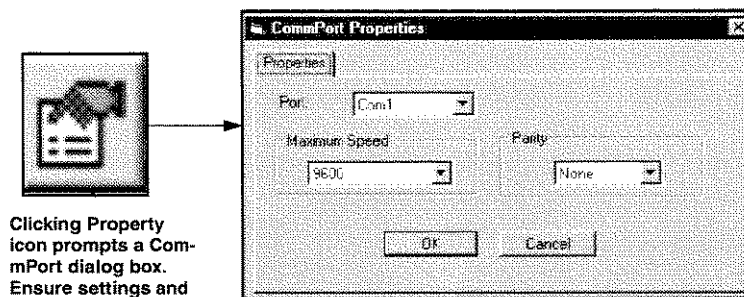
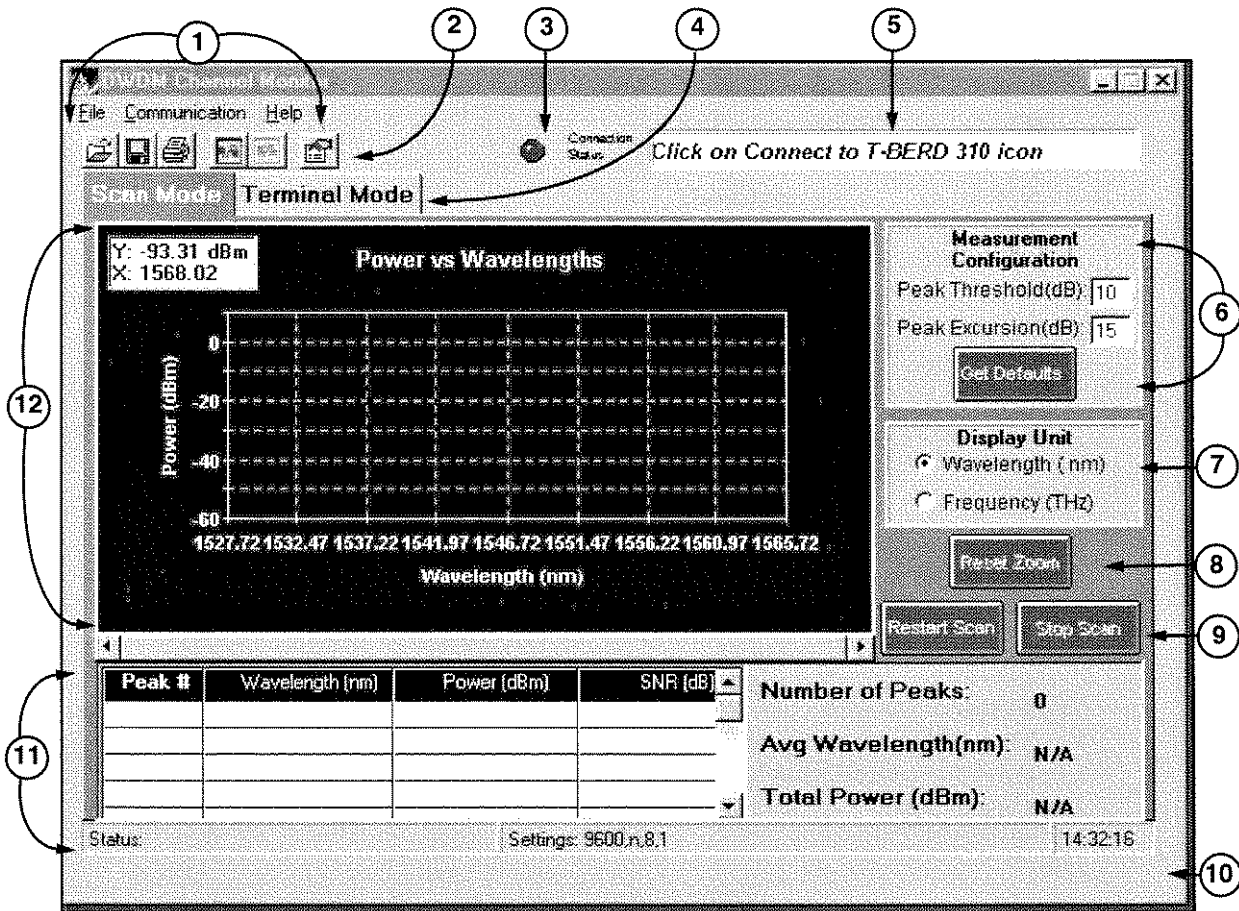
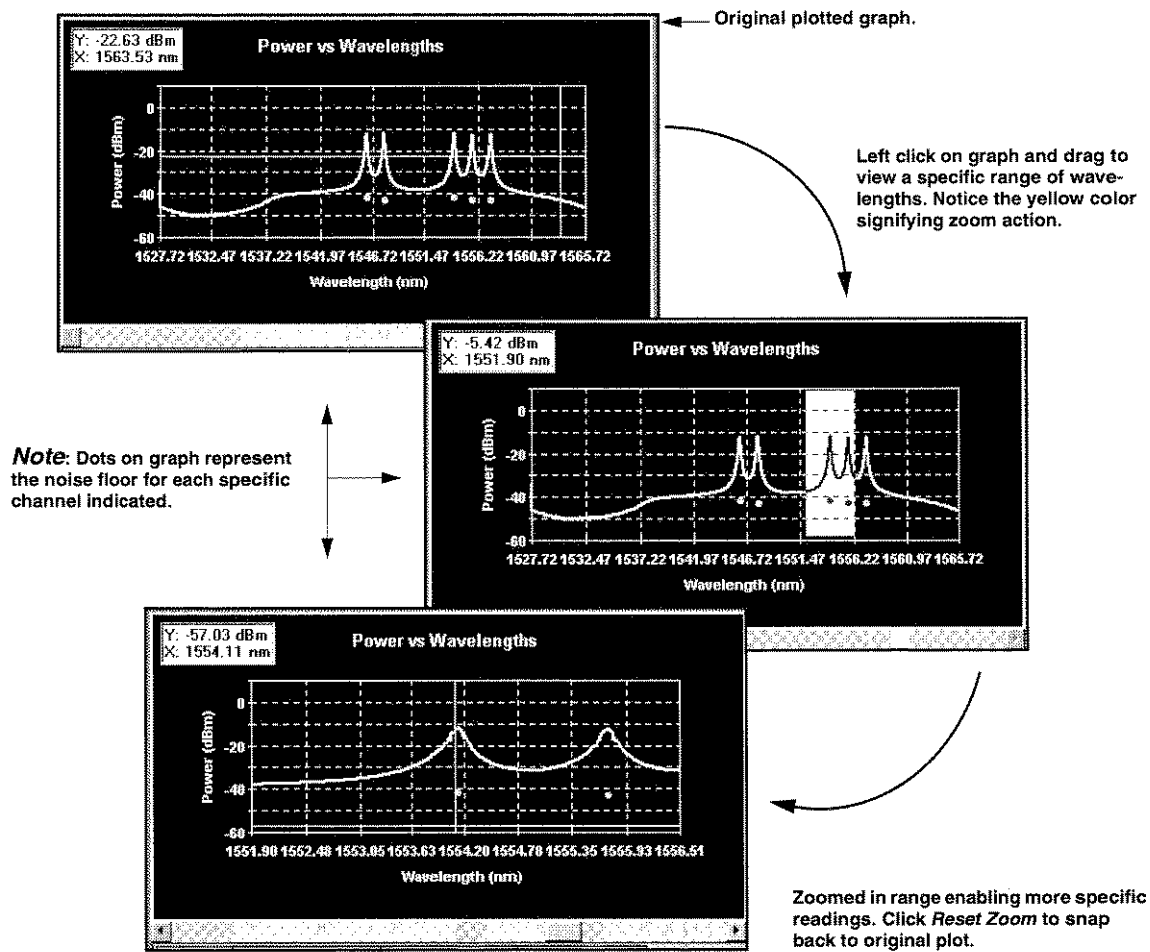

Figure 2-28. Property Settings on Laptop to Initialize DWDM Test
Figure 2-29. DWDM Channel Monitor Scan Mode Property Sheet
Figure 2-34. DWDM Scan Mode Zoom Capability
4. Verify connection. When program is launched on the laptop, it tries to connect automatically to the T-BERD 310. If the connection is successful, the LED above the **Scan Mode** property sheet (see Figure 2-29, callout #3) turns green; otherwise, it stays red. If red, check settings on laptop (click **Properties** icon above **Scan Mode** property sheet) to display CommPort Properties dialog box. It should look similar to Figure 2-28.
The program opens with the Scan Mode property sheet. Behind that screen is a second tab, the Terminal Mode property sheet. Figure 2-29 shows the opening screen. Descriptions of the callouts follow.
4. **Tabbed Property Sheets** — There are two tabbed property sheets: **Scan Mode** and **Terminal Mode**. The **Scan Mode** tab contains command buttons, editing capabilities, and options. When the DWDM application opens, it opens to **Scan Mode**. All graphical and table measurements are done in this property sheet (see Figure 2-29). The **Terminal Mode** functions as a terminal simulation window. It enables the user to remotely control the T-BERD 310 by typing in remote control commands (see Figure 2-33).
5. **Scrolling Marquis** — Displays initialization of applications and displays log files opened from laptop (see Figure 2-29).
6. **Measurement Configuration Window** — Numerically displays measurements of Peak Threshold and Peak Excursion of wavelengths (nm) and frequency (THz) derived from channel activity (see Figure 2-29). The numbers are determined using Peak Threshold and Peak Excursion parameters. User can modify these values at any time. An error message box displays if values are not within normal range.
7. **Display Unit Window** — Indicates if optical spectrum measurements are to be displayed in either Wavelength (nm) or Frequency (THz) (see Figure 2-29).
8. **Reset Zoom:** Enables user to return to the original (full scan) graph (see Figure 2-29). When data is not in the process of being downloaded (**Stop Scan**), user can zoom into a specific range of the wavelengths by using the mouse button and dragging on the graph (creating a rubber band). When released, the selected wavelength range displays. Figure 2-34 shows the progression of changing screens when using the zoom function.
9. **Restart Scan / Stop Scan:** Press to get or set new criteria values (see Figure 2-29). Start the scan using configuration settings displayed in the **Measurement Configuration** window. The scan covers the full spectrum (1528 nm – 1565 nm) in searching for active DWDM channels. Once DWDM results are available, data is downloaded, and the graph is updated. This cycle is repeated until user presses **Stop Scan**.
10. **Status Bar** — This area identifies which file is open, settings, and time (see Figure 2-29).
11. **Number of Peaks Table** — This table displays information about the channels from the latest scan (see Figure 2-29). The number of rows are equal to the number of channels found from the scan. Each peak depicts wavelength, power, and SNR. The maximum number of channels the user can view at any given time is five; however, a scroll bar to the right of the table automatically displays when there are more than channels peaks found, and the user can use the down arrow to view more channels. A summary report of the measurements is listed on the right side of the table (see Figure 2-35).
12. Power vs. Wavelength / Power vs. Frequency Graph — This graph plots the points from every channel found in the latest scan (see Figure 2-34). Any point on the graph results in the X (wavelength/frequency) and Y (power) coordinates displaying a numerical figure in the text box located on the top left corner of the graph. Dots on grass represent the noise floor for each specific channel indicated. The graph automatically updates with every scan.